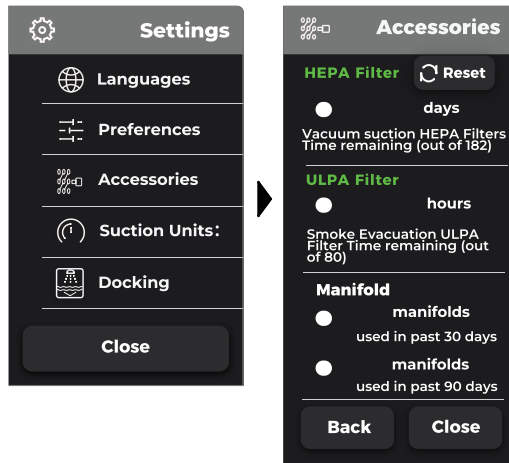

Figure 18 Settings Menu Dialog
1. From the main control screen, touch the SETTINGS button. The SETTINGS dialog menu will appear (Figure 18).